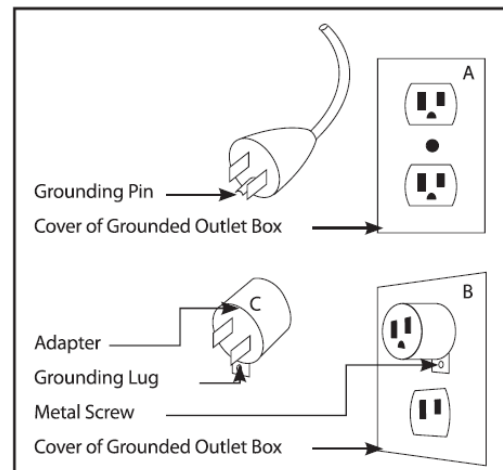

Figure 1
This heater is for use on 120 volts circuit and has a grounded plug that looks like the one illustrated on Figure 1.(A) See Figure 1 for grounding instruction. An adapter as shown as C is available for connecting three-blade grounding type plugs to two-slot receptacles (B). The green grounding lug extending from the adapter must be connected to a permanent ground such as a properly grounded outlet box. The adapter should not be used if a three-slot grounded receptacle is available.